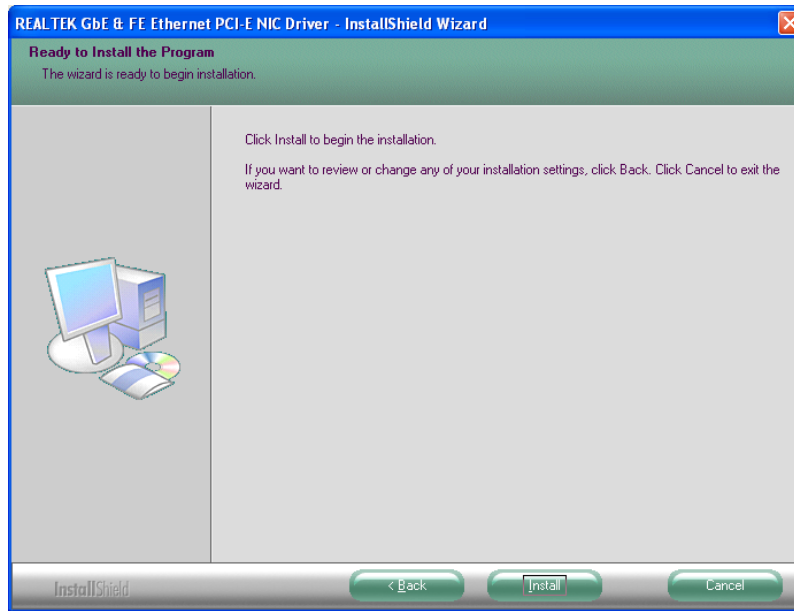

Figure 6-18: LAN Driver Welcome Screen
Step 5: The **Ready to Install** screen in Figure 6-18 appears.